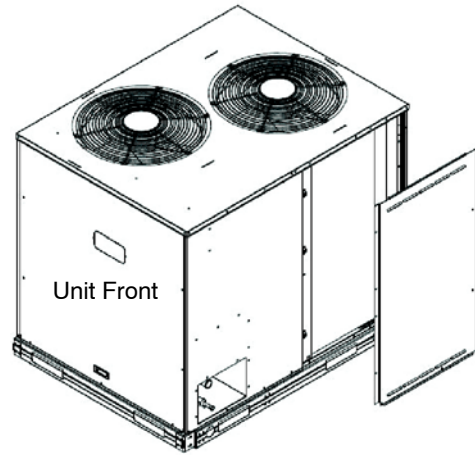

FIGURE 3 Grommets in Corner Post
3. Insert plastic grommets in the square holes of each corner post as shown in Fig. 3.